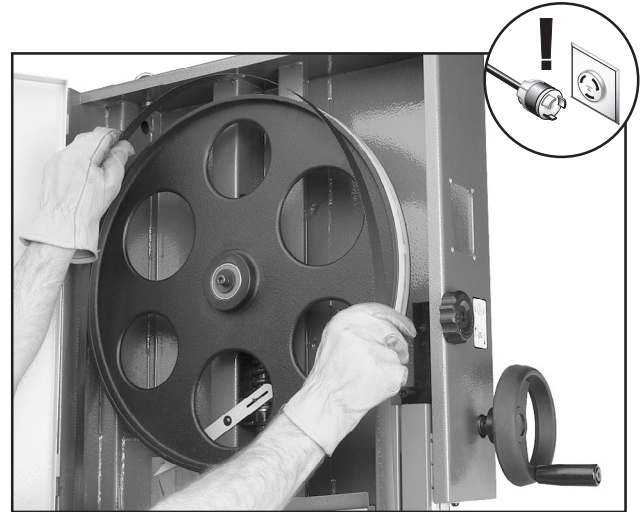

Figure 56. Example of placing blade on the wheels.
2. Slip the blade through the guides, and mount it on the upper and lower wheels (**Figure 56**).